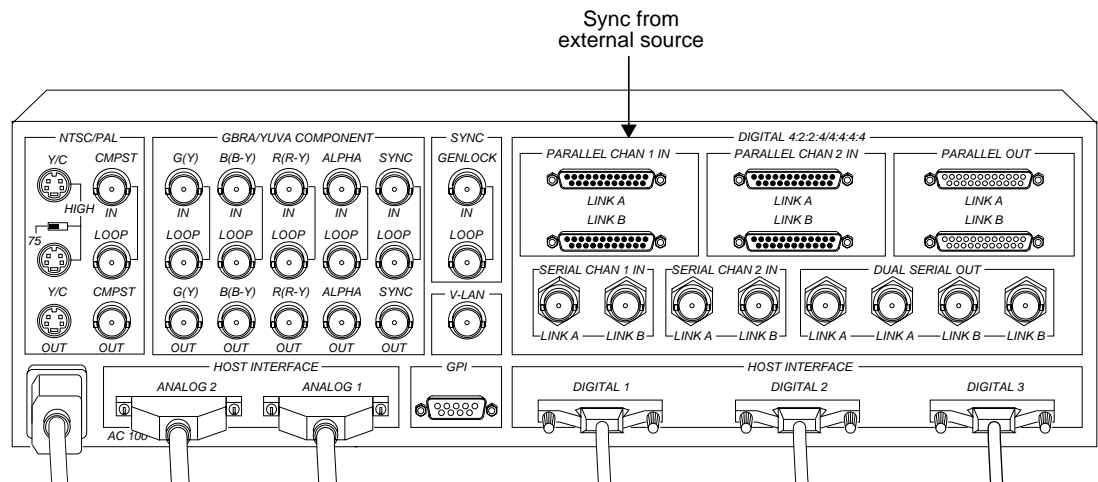

Figure C-14 External Sync Input Port on the Sirius Video Breakout Box
1. Connect the sync source equipment into the **GENLOCK IN** socket on the **SYNC** section of the breakout box, as shown in Figure C-14.